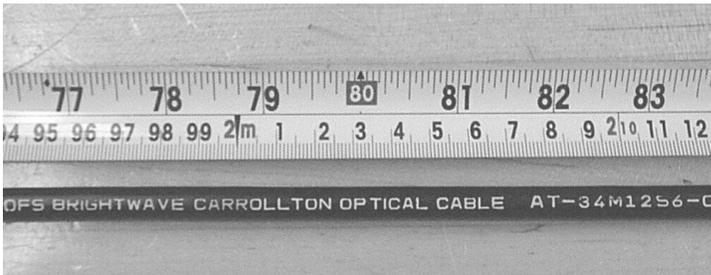

Figure 16 - Measure and mark the cable.
5.1 Measure and mark two points 10 inches apart on the area of sheath to be removed for mid-span access (Figure 16).